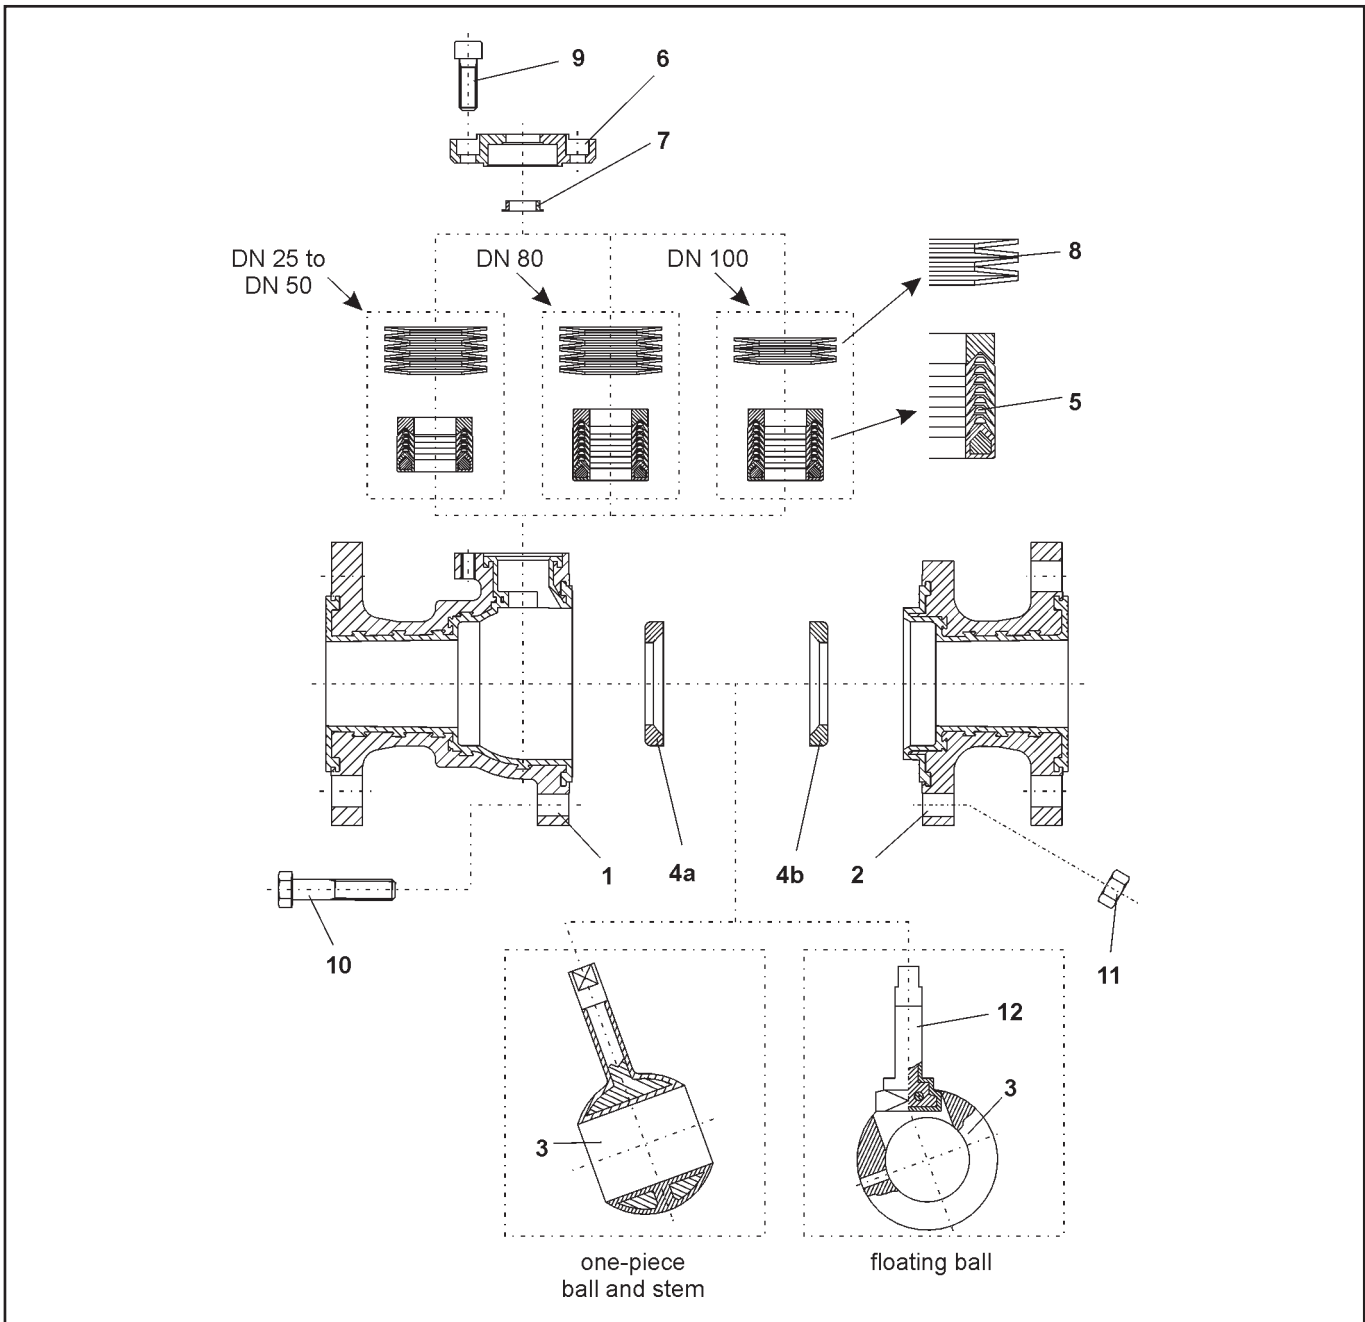

Fig. 3 – Detail drawing of the ball valve Series 20b
**Note:** The position and arrangement of the individual parts shown in the detail drawing (Fig. 3) are to be observed during assembly.